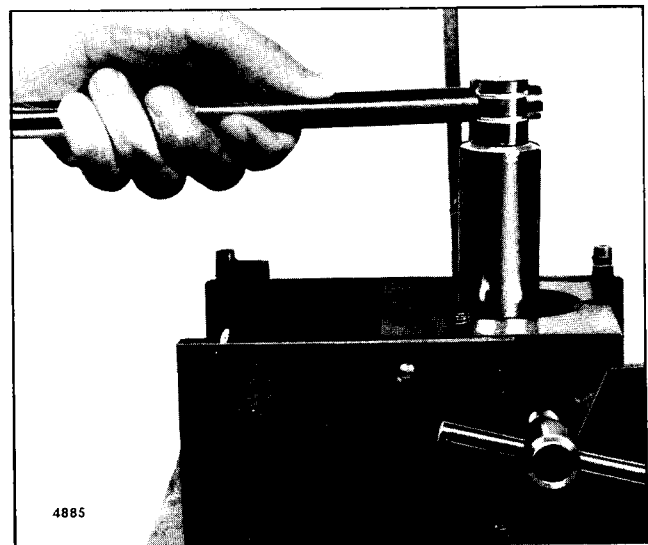

Fig. 25 - Removing Injector Nut using Tool J 4983-01
4. Invert the fixture and, using socket J 4983-01, loosen the nut on the injector body (Fig. 25).